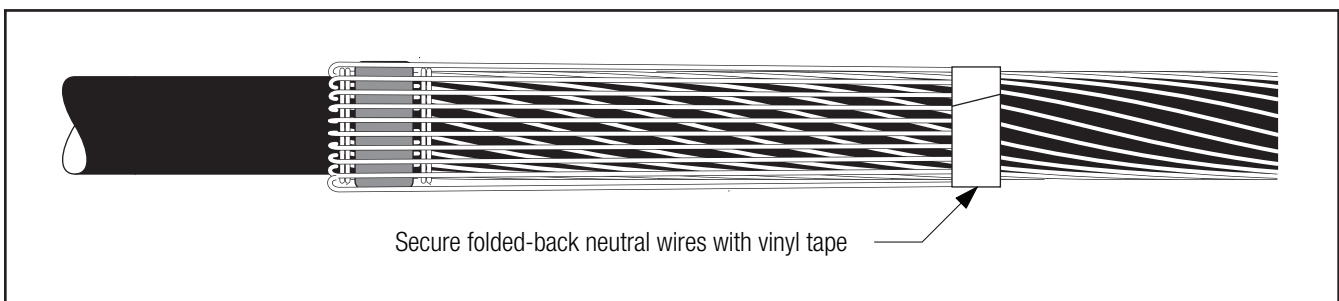

Figure 9
2.3.5 Fold neutrals over mastic seal and temporarily secure ends with vinyl tape (*Figure 9*).